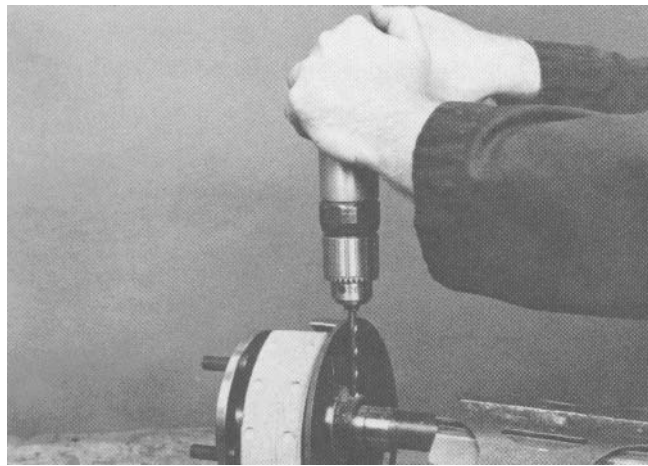

Figure 10
6. Center punch and drill a 1/4 inch hole (approximate) into the outside of the bearing retainer to a depth of about 3/4 the thickness of the retainer (Fig. 10).